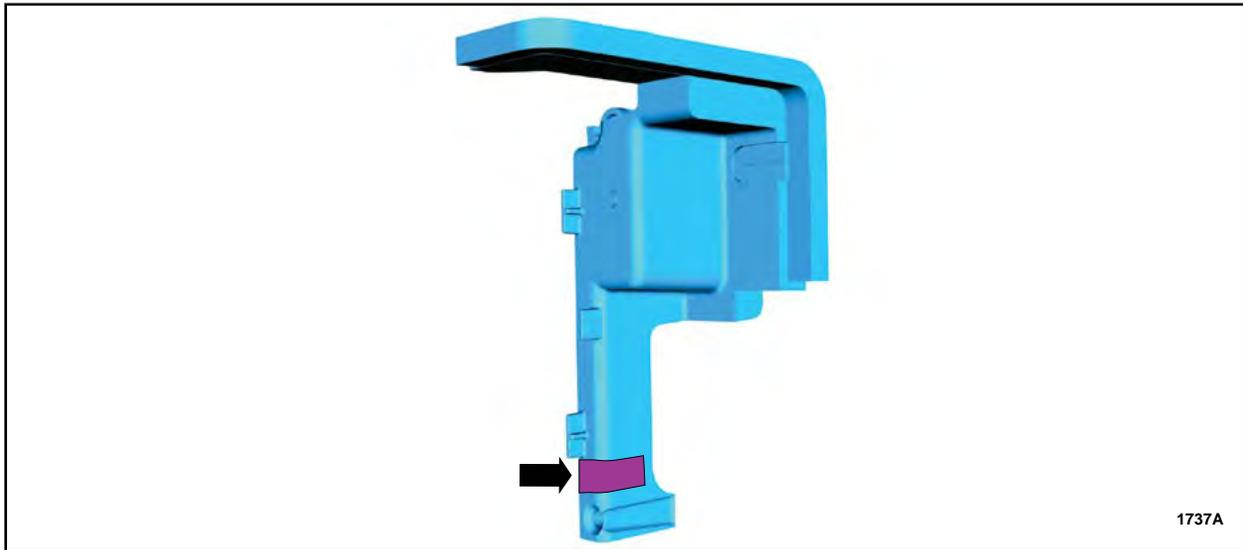

FIGURE 8
10. Apply supplied Foam Tape to the *new* water shield in the highlighted area. See Figure 8.